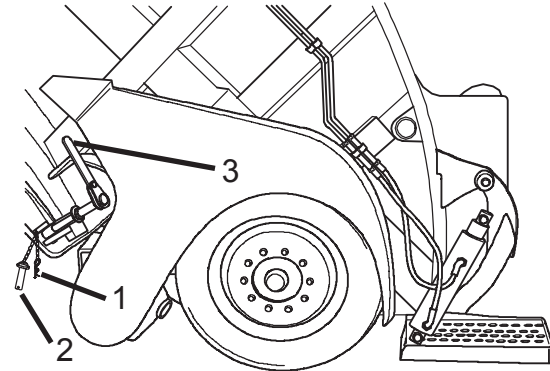

Figure 18
One turnbuckle is present on each side of the lower tailgate (Figure 18). These turnbuckles are safety devices that clamp down and secure the tailgate to the collector body.
1. Remove hair pin clip (Figure 18, Item 1) from the safety pin (Figure 18, Item 2) and remove the safety pin.
2. To unlock turnbuckle, turn the handle (Figure 18, Item 3) counterclockwise several times until the turnbuckle is loose.
7. Turn the handle (Figure 18, Item 3) clockwise until tight to clamp and lock tailgate into position.
8. Replace the hair pin clip (Figure 18, Item 1) into the safety pin (Figure 18, Item 2).